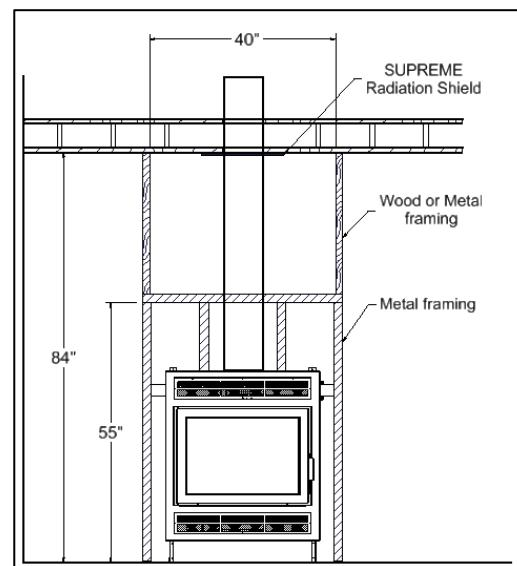

Figure 3-8: Framing Design
The Astra 32 can be placed directly onto or against normal, combustible construction materials such as lumber, plywood, millboard, particleboard, drywall and decorative wood paneling. The fireplace should NOT be placed directly against or be in contact with an insulation material. A portion of the framing on the face of the chase must be constructed with nominal 2" x 3" or 2" x 4" metal studs and the remainder can be constructed with nominal 2" x 3" or 2" x 4" lumber. Refer to Figure 3-8 for framing design. The framing must be nailed or screwed onto the floor and to the ceiling.
**CAUTION: Do not construct the framing with combustible material in front of the chimney; respect the framing design outlined in Figure 3-8.**